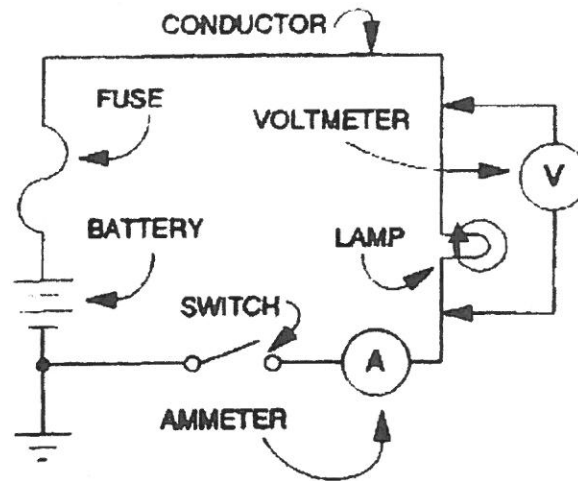

Figure 1-4
- Schematic diagrams have several functions. They are used to make electronic circuits smaller, to save time, for standardization, and to show component connectivity with a circuit. Figure 1-4 is an example of a schematic diagram.